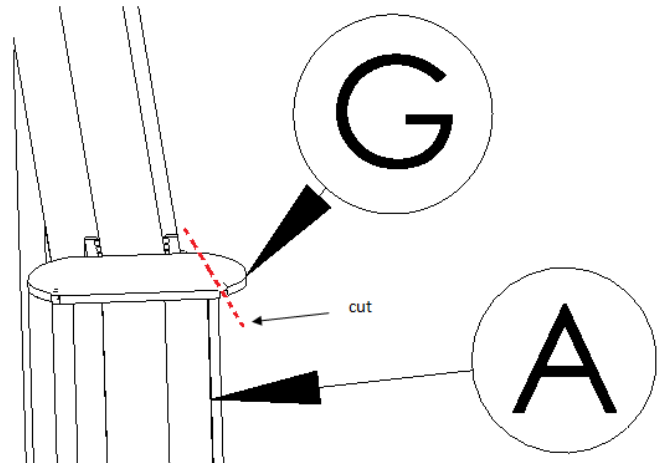

Figure 2
4. Insert Panel (B) to Wall Jamb Post (A) and push it up against the wall and floor as far as it will go. Secure Panel (B) to Wall Jamb Post (A) using the three Self Drilling Adjustment Screws (E).
5. Place 900 CAPS (F) on the exposed ends of the Wall Jamb Post (A) and Floor Jamb Post (B). Cut off excess plastic from 900 Cap using the cavity as cutting guide, shown in Figure 2.
6. Caulk Unit at bottom where Panel (C) connects to Floor Jamb Post (B).
7. Place Towel Bar Plugs in Panel (C), as shown in exploded view.